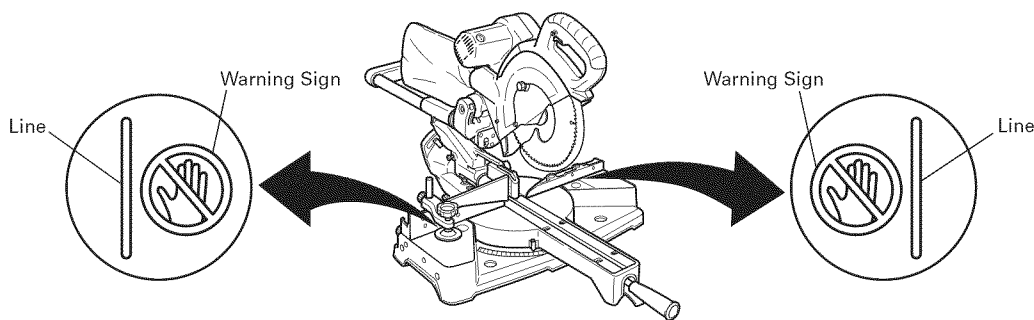

Fig. 24
* Never place your limbs inside of the line next to warning sign while the tool is being operated. This may cause hazardous conditions (see Fig. 24).